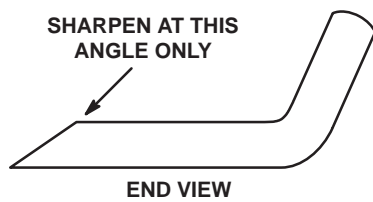

Figure 28
3. Inspect the cutting edges of all of the blades. Sharpen the cutting edges if they are dull or nicked. Sharpen only the top of the cutting edge and maintain the original cutting angle to make sure of sharpness (Fig. 28). The blade will remain balanced if the same amount of metal is removed from both cutting edges.